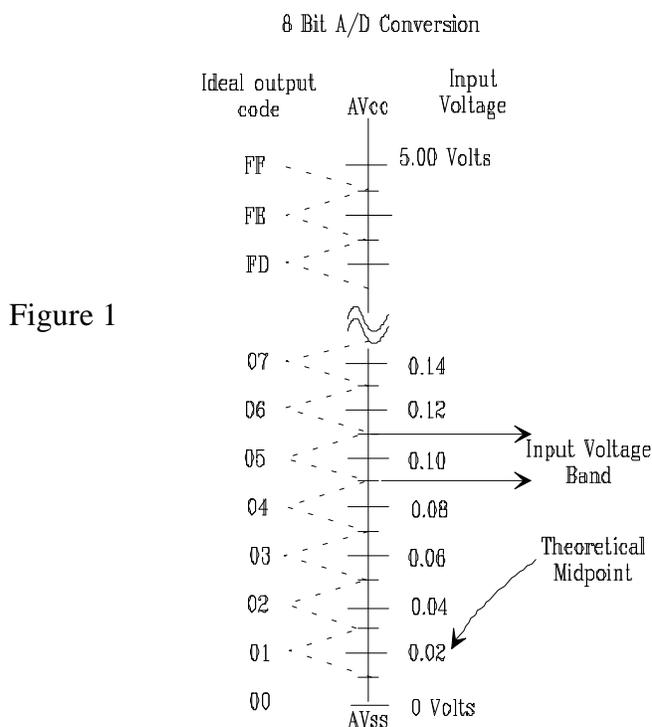

Figure 1
O.K. so much for theory. The reality is that the voltage level detection process and the quantization process (the process of dividing the voltage spread into discrete steps) introduce errors to the A/D conversion and limits the accuracy of the output code. All errors are expressed in terms of LSBs. Refer to figure 1.